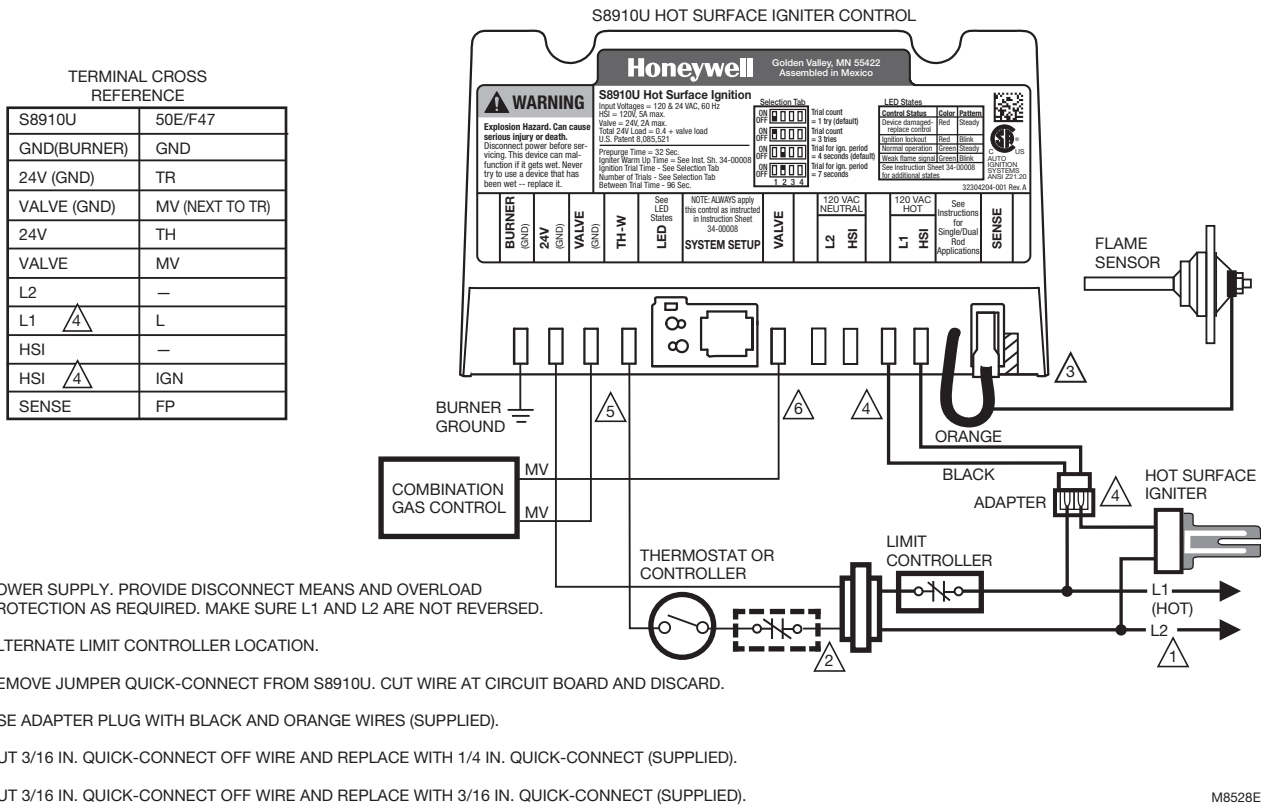

Fig. 2. Typical hookup when S8910U replaces White-Rodgers 50E/F47.
1. Connect the wires to the S8910U Ignition Module as shown in Table 5. Make sure that adequate system ground is provided as indicated in the wiring table. See Fig. 2 through 4. Where a change in quick-connect is required, cut off the original quick-connect, strip the leadwire and firmly crimp in place the proper quick-connect supplied.
2. Verify the thermostat anticipator setting as explained in the preceding **IMPORTANT**, item 4.